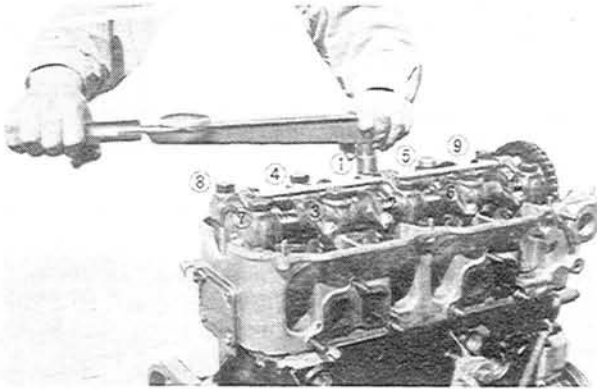

Fig. 1-70 Tightening order
5. Tighten the cylinder head bolts evenly to **8.0 m-kg (60 ft-lb)** in the sequence shown in Fig. 1-70.